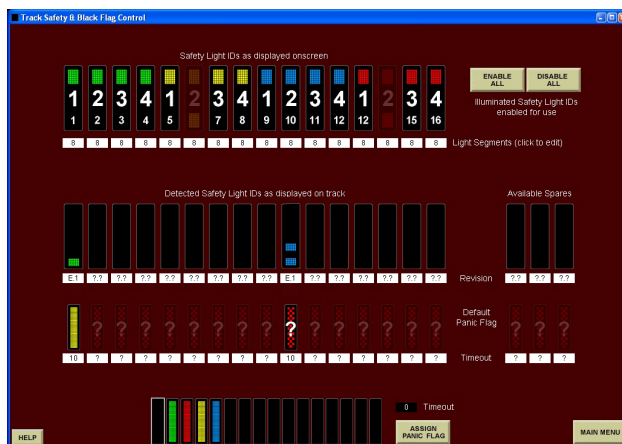

Figure 8 - Config Lights Screen
in Figure 8. When this screen is displayed, the program polls the track for all active iTSL IDs and spare iTSL IDs. All active iTSLs on track display their ID code as one of four colors (red, green, blue, or yellow) and a number of illuminated segments (1, 2, 3 or 4).
**TIMEOUTS and PANIC FLAGS** - When an iTSL responds, its on track ID is loaded below the corresponding onscreen ID as well as its Revision level, configured Timeout parameter and configured Panic Flag as shown in Figure 8. A Panic Flag will be displayed on an iTSL if there is a complete breakdown in communications with the
In Figure 8, ID Green 1 is configured to change to an all yellow flag if there is a communications breakdown or it is unable to communicate with the tower for 10 seconds. In the case of ID Blue 2, the Panic Flag configured in the safety light does not match any of the configured flags being utilized by the software and a question mark displays. To change the Panic Flag and/or Timeout, select a Default Panic Flag at the bottom of the screen and enter the number of seconds in the Timeout field, then click ASSIGN PANIC FLAG. A value of 0 seconds disables this function.